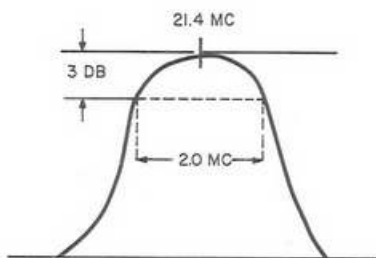

Figure 5-10. 60-21.4 Mc Converter Response Waveform at J3 Output.
- p. Adjust L5 and L6 for maximum response centered around the marker. Refer to Figure 5-10.
- (3) ISA-201-1 Isolation Amplifier: The amplifier used to provide isolation between the local oscillator and the LO OUTPUT jack on the front panel of the tuning unit is broadly tuned and will not require alignment in the field. The module provides a loss of about 4.0 db over the tuning range of the local oscillator and effectively isolates the oscillator from variations in load impedance. Perform the tests outlined in Table 5-5 of the minimum performance standards. When the unit does not meet the minimum standards, the difficulty is likely to be a defective component and not alignment.